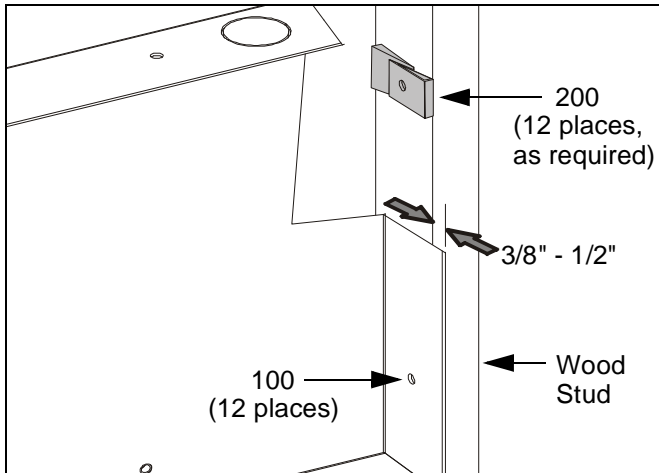

Figure 4: Install Housing
- Center housing (10) in framed cavity. Ensure housing (10) protrudes 3/8" - 1/2" beyond front face of wood stud (for 1/2" drywall; adjust as required for other wall construction) (See Figure 4).
- Cut and overlap shims (200) as required to completely fill space between fastener holes in housing (10) and studs/horizontal framing (See Figure 4).
- Using key (180) or bit (190) install all 12 bolts (100) through housing (10) (and shims (200), if required) into studs/horizontal framing (See Figure 4). Tighten securely.